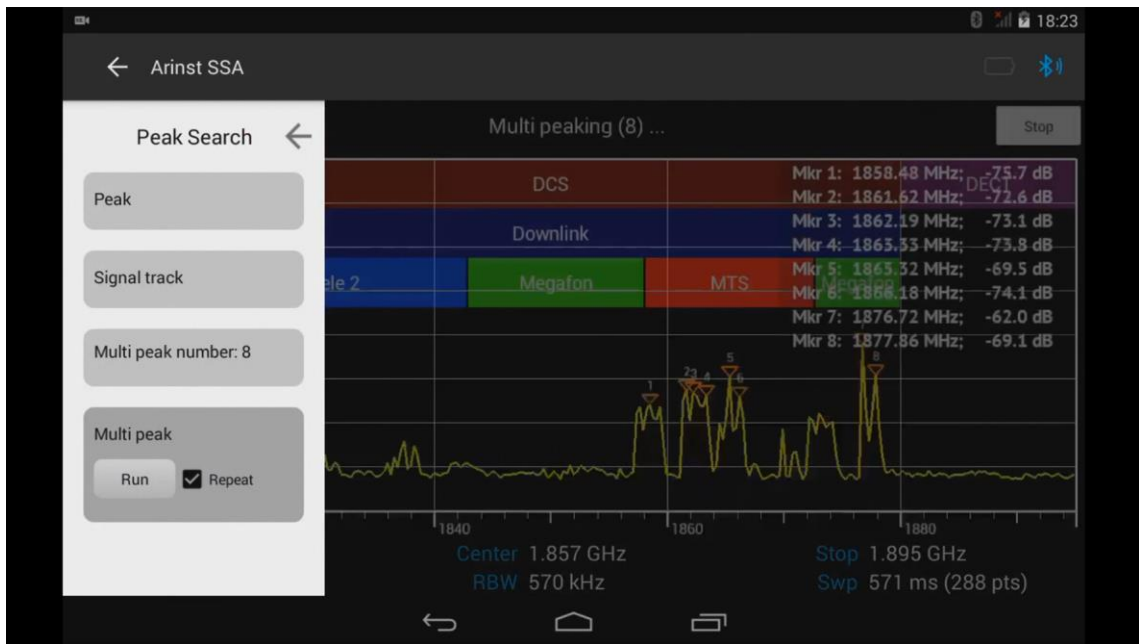

Figure 51 – Enabling installed markers
8.8.7. After setting the required number of markers, go to the **Multi peak** menu and click the **Run** command, as shown in Figure 51. If necessary, use the cyclic repeat option **Repeat**.